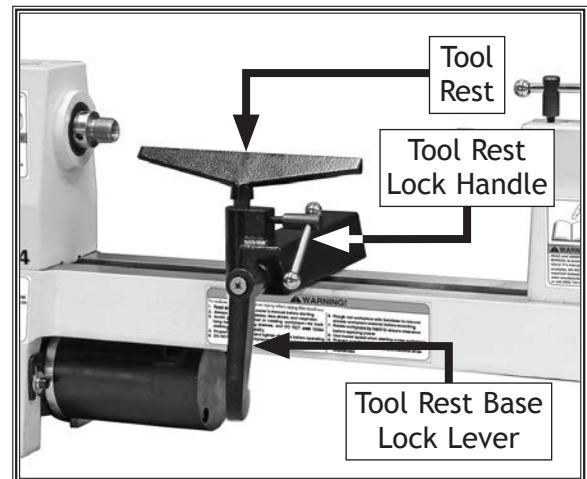

Figure 19. Tool rest controls.
1. Loosen tool rest base lock lever (see **Figure 19**) and move tool rest assembly to desired position on lathe bed.
1. Loosen tool rest lock handle (see **Figure 19**).